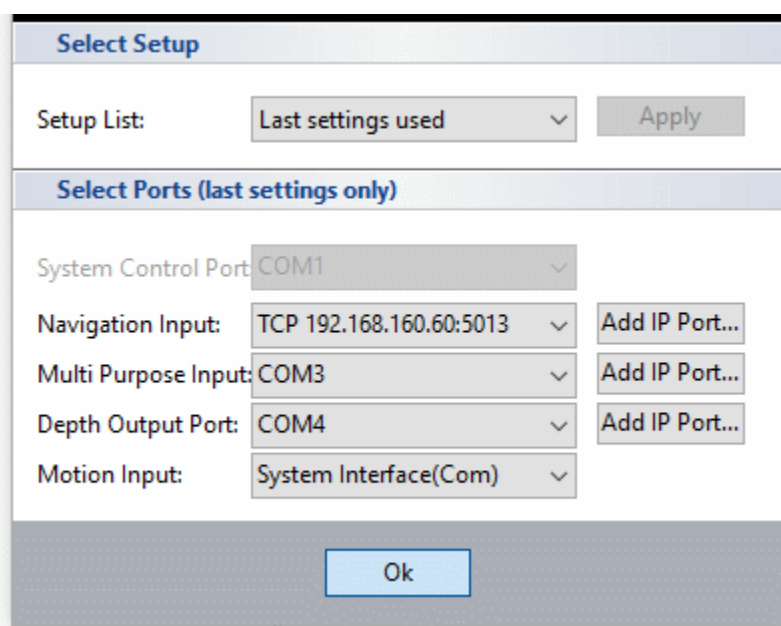
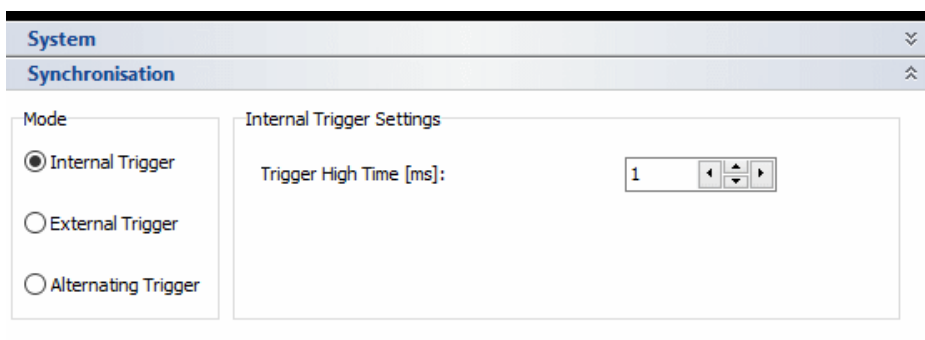

Figure 2: The SESWIN COM Port Setting
Figure 14: System Setup, General - Synchronization
- Click the *SESWIN_V2245_24bit* icon on the desktop, the following window will show up (Figure 2).
- **Synchronisation:** These settings (Figure 14) are important if you want to use the SES together with the Kongsberg Multi Beam EM712. Chose internal triggering if you use the SES as master device and want to trigger other equipment. If the INNOMAR system is triggered externally you can apply a trigger delay and/or transmit bursts of pings with each trigger event. With “Alternating Trigger” the INNOMAR system is running as master and generates a trigger pulse at “Trigger OUT” when an external device shall ping rather than pinging itself.
The SES200 and the EM710 are two independent echosounders with their own signal output. On the RV Heincke it is possible to synchronise the SES and the EM712 over a trigger unit to avoid interferences. Some changes have to be performed in the SESWIN- and the EM712 Software in order to use the synchronisation. The trigger system is arranged that the SES can act as the master unit or the triggered unit. In the SESWIN Software go to System Setup – General – Synchronisation (Figure 14): Switch from Internal Trigger to External Trigger or Alternating Trigger (for using the synchronisation and sending the trigger to another device) (Figure 2, Figure 19 and Figure 20). Triggering needs to be tested. Following settings have been tried so far. Check if usable!